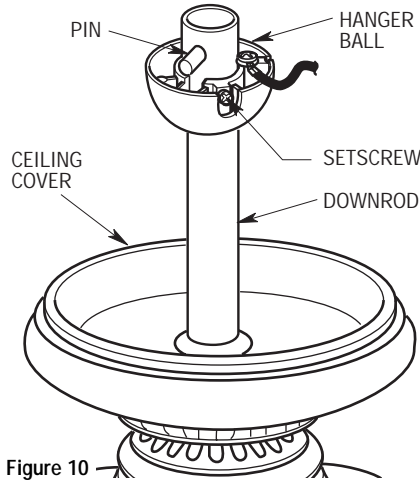

Figure 10
- 18. Position the ceiling cover over the downrod and rest it on the upper housing (Figure 10).
- 19. Reinstall the hanger ball on the downrod (Figure 10) as follows. Route the motor leads through the hanger ball and slide the hanger ball over the downrod. Install the pin through the holes at the top of the downrod and slide the hanger ball up the downrod, aligning the ball so the pin is captured in the groove in the top of the hanger ball. Pull the hanger ball up tight against the pin and securely tighten the setscrew in the hanger ball. A loose setscrew could create fan wobble.